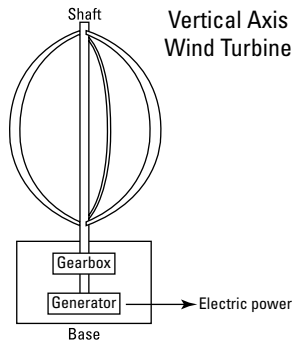

Figure 11-2:
- ✓ **Vertical axis turbines** consist of a vertical shaft with blades (usually three) attached at the bottom and top of the shaft, as shown in Figure 11-2).